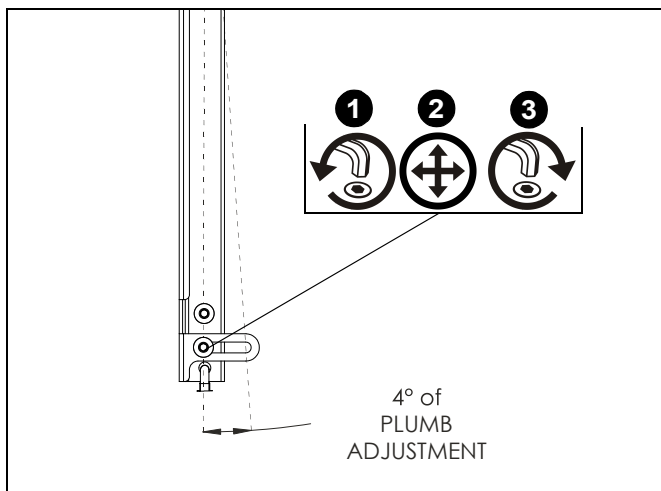

Figure 14
1. Loosen lower screws holding brackets together. (See Figure 14)
2. Adjust plumb (up to 4°) as necessary to ensure display is perpendicular with the floor/ceiling. (See Figure 14)
3. Tighten lower screws holding brackets together when desired plumb is reached. (See Figure 14)